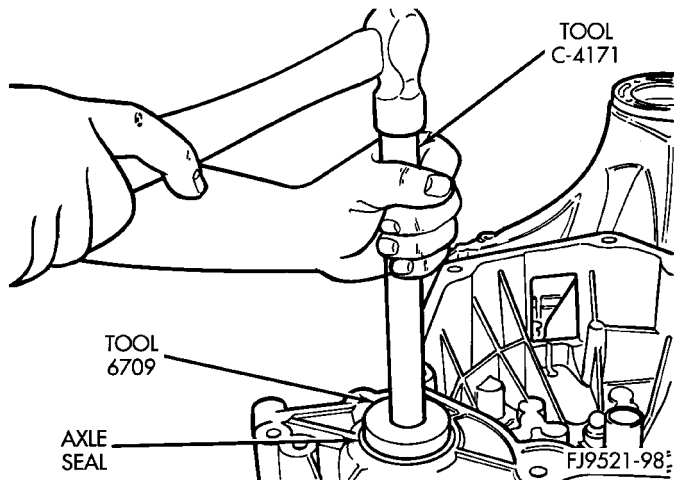

Fig. 122 Axle Seal Installation
- (1) Clean axle shaft seal bore of any excess sealant.
- (2) Align axle shaft seal with axle shaft seal bore.
- (3) Install axle seal on tool #6709 with C-4171 and insert into axle shaft seal bore.
- (4) Tap seal into position (Fig. 122).